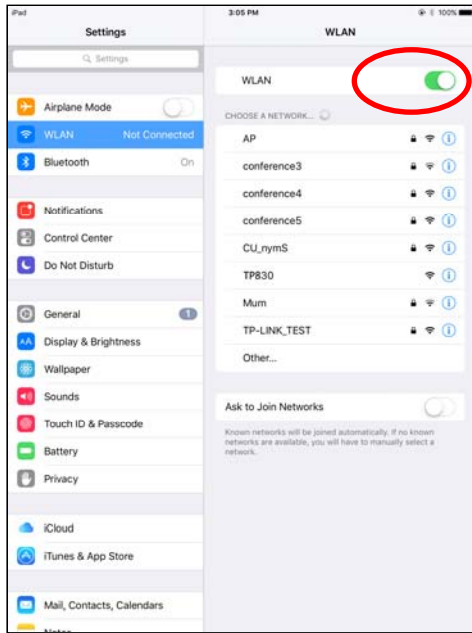

Figure 35
1.3 Turn on the “WLAN” function, equipment will search automatically and show the current hotspot, as shown in Figure 35.